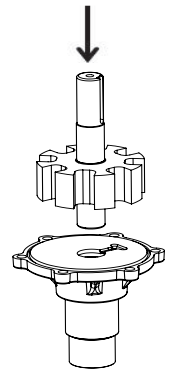

Figure 8
5. Install shaft/rotor assembly by carefully pushing short end of shaft/rotor assembly through shaft seal into cover. Place in arbor press with drive end of shaft pointed up as shown in Figure 8. Use same socket as used in step 2 to support outer race of bearing. Press shaft/ rotor assembly into cover assembly until it stops.